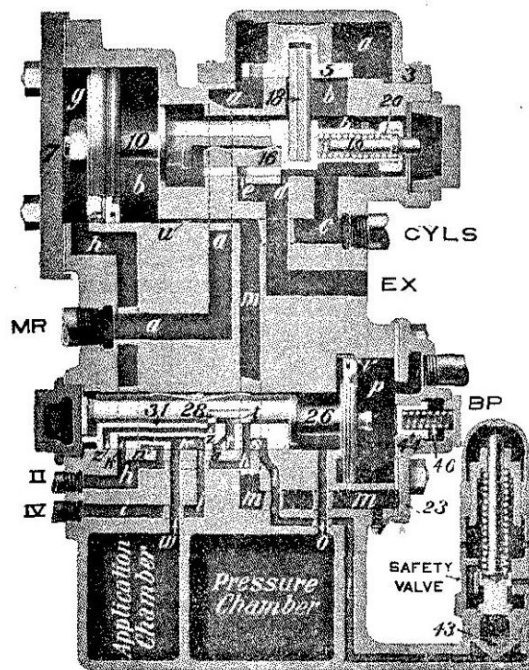

Fig. 8: Release, Automatic or Independent.
A. Referring to Fig. 8, the connection marked "MR" is the main reservoir supply pipe; "II", application cylinder pipe; "IV", distributing valve release pipe; "BP", brake pipe; "CYLS", brake cylinder pipe.
A. In this position of the brake valve the port to which the distributing valve release pipe is connected is open to the exhaust, thus allowing the air to escape from the application chamber and cylinder. The reduction of pressure in chamber "g", will allow the brake cylinder pressure in chamber "b" to force the application piston and its valves to release position, thus allowing the brake cylinder air to escape to the atmosphere, through the exhaust ports "e" and "d". (See Fig. 8.)
A. Its purpose is to assist the brake valve in venting brake pipe air when an emergency application of the brake is made, and is located on the brake pipe side of the distributing valve in place of the plain cap. (See Figs. 8 and 11.) [Pg 208]